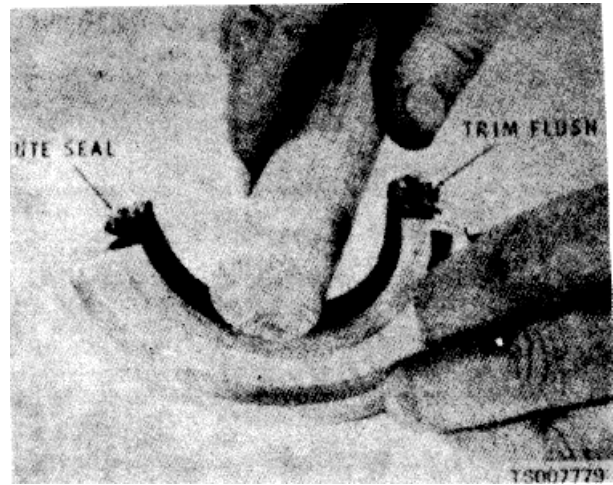

Figure 9-15. Rolling Seal into Filler Block.
- (2) Roll the seal into the filler block groove with a round object (fig. 9-15).